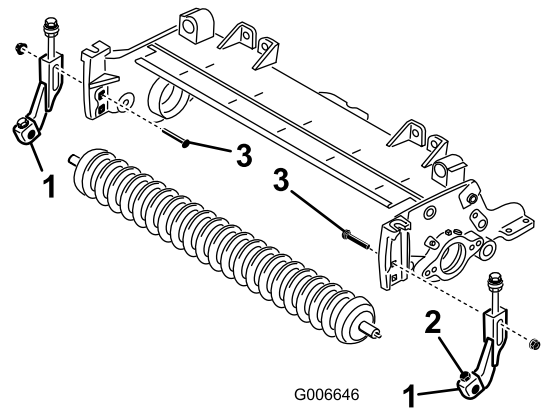

Figure 20
18. Center the roller between the brackets and lock in place with the capscrews and locknuts on the brackets (Figure 20).